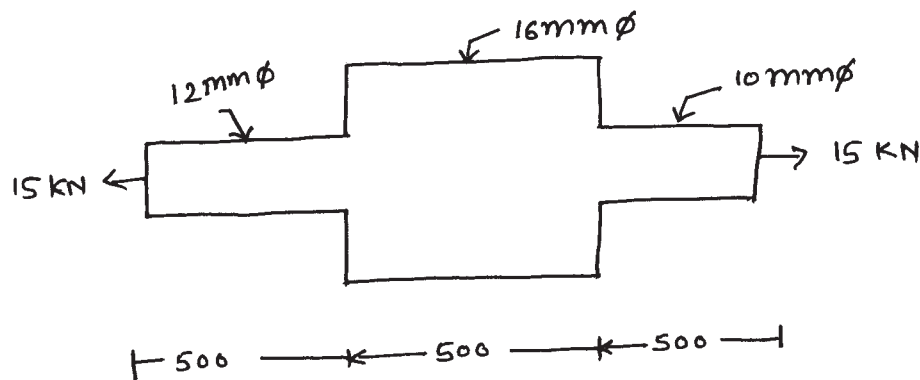

Fig. No. 01.
- b) Determine the total elongation of the bar shown in Fig. No. 01. Take $E = 2 \times 10^5 \text{ N/mm}^2$.